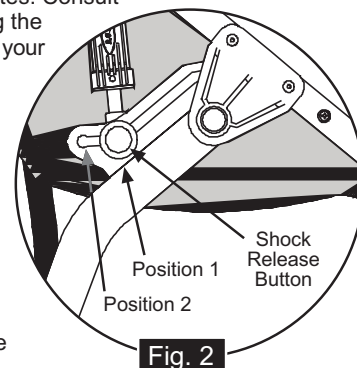
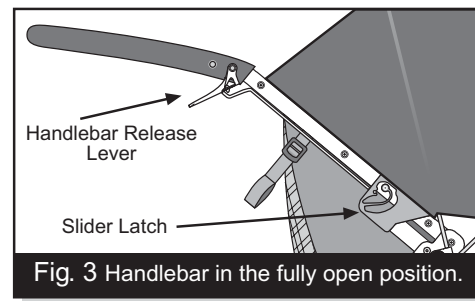
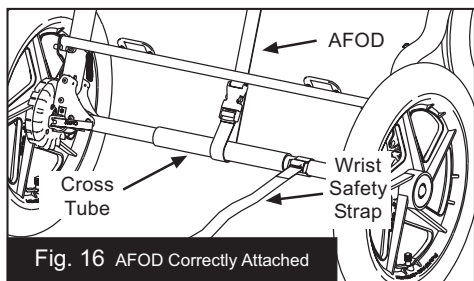
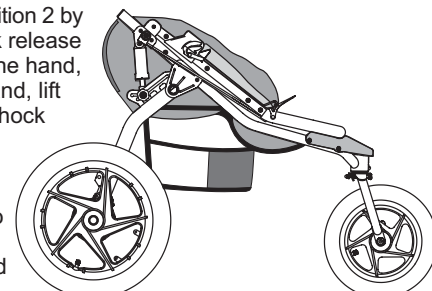

Fig. 2
Fig. 3 Handlebar in the fully open position.
Fig. 16 AFOD Correctly Attached
Fig. 22 Stroller with handlebar folded.
2. SWINGARM: Rotate the swing arm away from the front of the stroller until each of the shocks engage in the first position (Fig. 2). Each shock locking pin will "snap" and lock into position 1.
3. HANDLEBAR: Rotate the stroller handlebar up to the fully open position. Slider Latches will lock into place (Fig. 3).
9. AFOD: With the stroller in the fully open position, attach the AFOD (Anti-Fly-Out-Device) around the cross tube with the plastic buckle (Fig. 16), so the AFOD is between parking brake and low boy cargo pouch. It is important that the AFOD is always properly secured when using the stroller, as it is part of the child's seat restraint system. It is however, necessary to release the AFOD in order to fold the stroller.
The suspension system features two shock positions to provide a comfortable ride for kids of different weights. The two positions are shown in Fig. 2. Position 1 is intended for total loads up to 50 lbs. (22.5 kg), while position 2 is intended for total loads from 50 to 100 lbs. (22.5 to 45 kg). The Revolution Duallie features a sliding track and spring loaded shock pin that automatically locks in place when it aligns with either of the two shock positions. Shock position adjustments should be made with the stroller unloaded. The shock will lock into position 1 when unfolding the stroller. To use the stiffer shock position, move the shock from position 1 to position 2 by depressing the shock release button (Fig. 2) with one hand, and with the other hand, lift slightly and pull the shock backward. When the shock pin is properly aligned in position 2, the pin will "snap" into place. Repeat this process for the second shock. To move the shock from position 2 to
Unbuckle AFOD strap (Fig. 16.). The shock absorbers must be in position 1 (Fig. 2) before folding. Press both the right and left handlebar release levers (Fig. 3), and fold the handlebar forward as shown in Fig. 22.